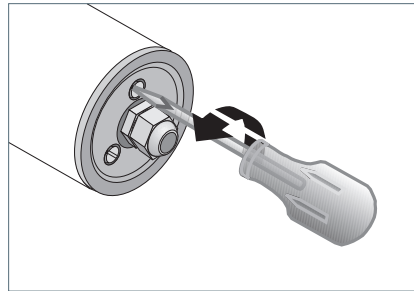

Fig. 7: Opening the side part A.
- ▶ Unscrew the three screws on the connection side by about 3 to 4 turns, see Fig. 7.